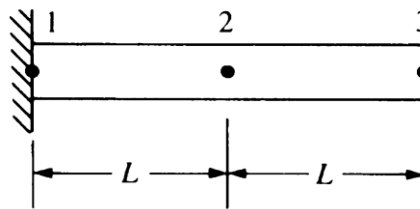

Figure 5
4. a) Determine the Eigen values and Eigen vectors of the bar shown in figure 5, Take $E=200 \text{ GPa}$, $\rho = 2800 \text{ kg/m}^3$, $A=0.258 \text{ m}^2$, and $L=0.4 \text{ m}$. (15)